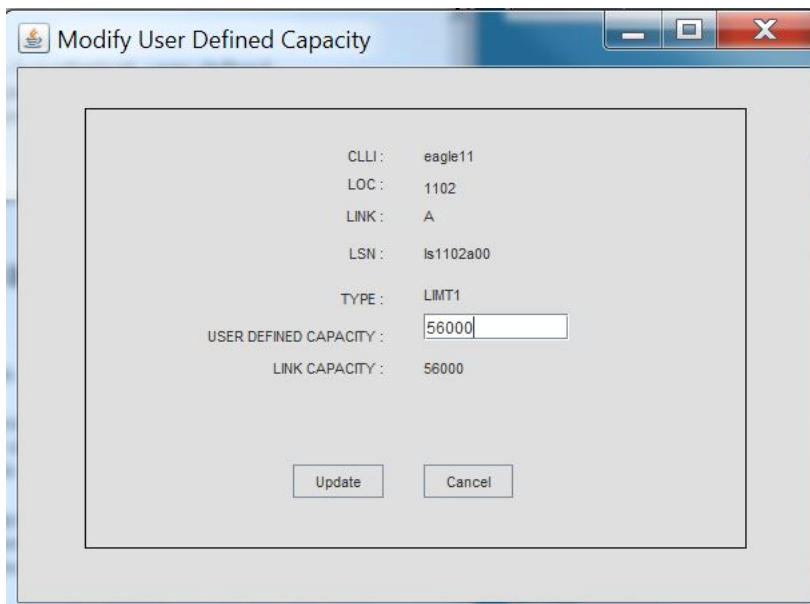

Figure 84: Modify User Defined Capacity
1. **Double click** on a row in table showing link data for an EAGLE. In the following example, you will see the Figure 84: Modify User Defined Capacity screen for the link data of the EAGLE11.